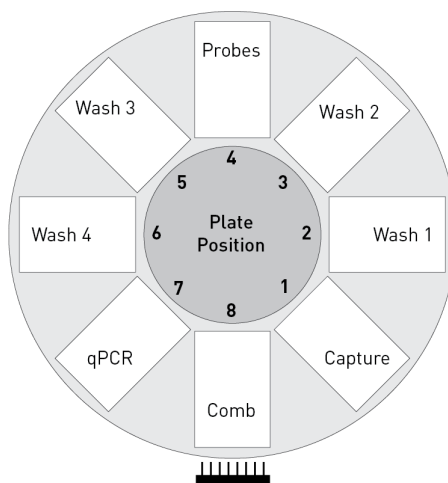

Figure 5 Plate positions in the turntable
2. Press **START** to initiate plate loading. Follow the prompts on the display screen to load each plate onto the turntable, starting with “Comb” (see Figure 5). Slide each plate into the plate hold-down (if present).